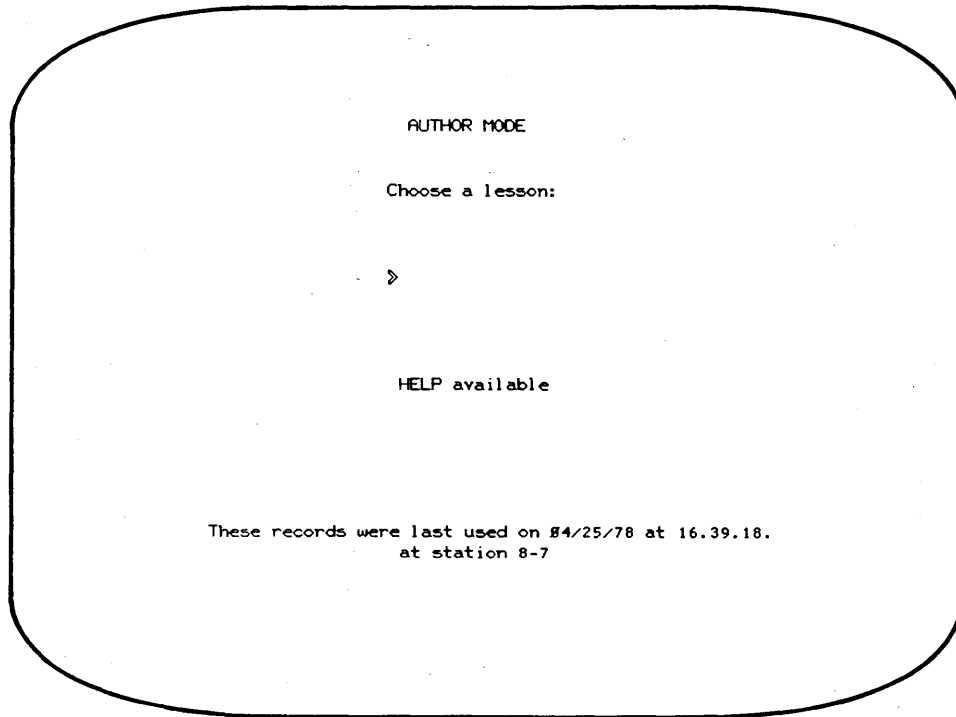

Figure 2-8. Author Mode Display
- c. Author Mode Display (figure 2-8) appears if you are an author.